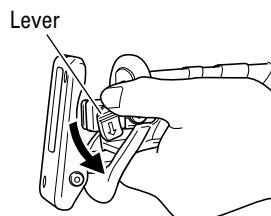

Fig. 3
(2) Push the lever in the direction of the arrow mark shown in Fig. 3 marked on the lever.
- (2) After you have pushed the lever in the direction of the arrow mark shown in Fig. 3, turn the blade so it faces downward. The blade should fall out by itself. If the blade doesn't fall out, pull it out by hand.